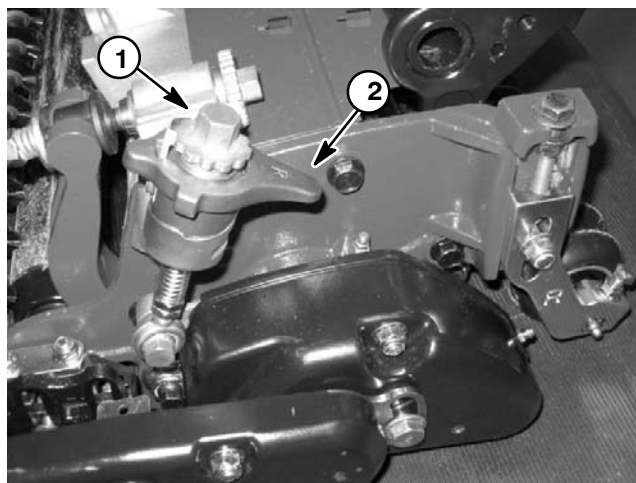

Figure 1
3. Place the groomer reel in the grooming (lowered) position by rotating the raise/lower lever toward the front of the cutting unit (Fig. 1).
4. On one end of the groomer reel, measure the distance from the lowest tip of the groomer blade to the working surface. Turn groomer height adjuster to raise or lower the groomer blade tip to the desired height (Fig. 1).